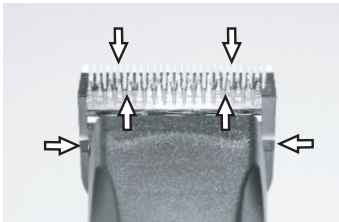

Fig. 24
To ensure a good haircutting result and to increase the service life of the hair clipper and the clipper head, apply a thin coat of oil between the top and bottom blade (Fig. 24).
- ▶ Lubricate the blades sufficiently when clipping (at least every 15 minutes) to prevent them from becoming dry (Fig. 24).